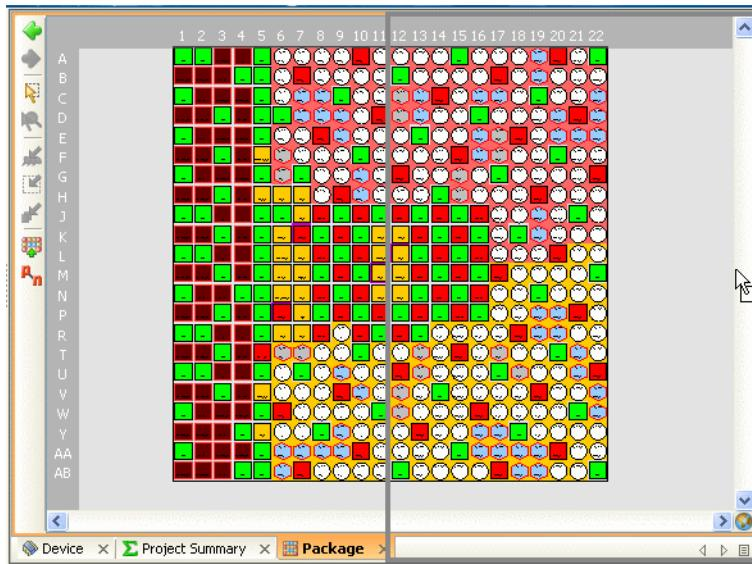

Figure 8-2: Splitting the Workspace to Display Package and Device Views
- Select either view tab and drag it to the very far right scroll banner of the workspace. A grey rectangle displays where the view would be placed. Position the cursor so that the Workspace view arrangement is to your liking and click the cursor to move the view and split the workspace. Figure 8-2, page 241 shows an example of a split view. This same technique works with many of the views.